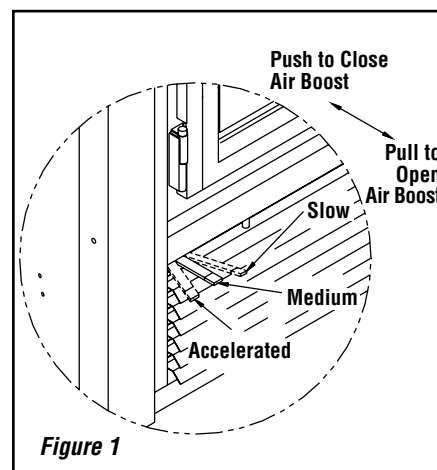

Figure 1
This is the recommended mode of operating the WCT4820WS fireplace and should be the one normally used since it will deposit the least amount of creosote on the glass and in the chimney. The combustion air control must be 3/4 closed and pushed in to close the air boost (*Figure 1*). The precise setting will depend on many factors, including chimney length and the moisture content of the wood.
Creosote may accumulate on the glass door. This method of burning should be used only after operating the WCT4820WS fireplace with the air control opened (*Figure 1*) to produce a hot fire for about an hour or at medium pace for at least three (3) hours. Slow combustion can be used at night in order to reduce the heat output and to prolong the burn. The loading time will be between 6-8 hours.
The WCT4820WS fireplace will operate best if attention is given to operating the unit with the damper fully opened (**Figure 1**) after refueling in order to bring the firebox and the chimney system up to their optimum operating temperature. Combustion efficiency is relative to firebox temperature. A temperature of 500° C (932° F) and up, with a visible flame, in the upper part of the firebox indicates a maximum efficiency. To obtain this temperature, the fireplace must be operated with the primary air and air boost controls fully opened during 10 to 20 minutes after reloading, depending on the heat and on the moisture content of the wood.